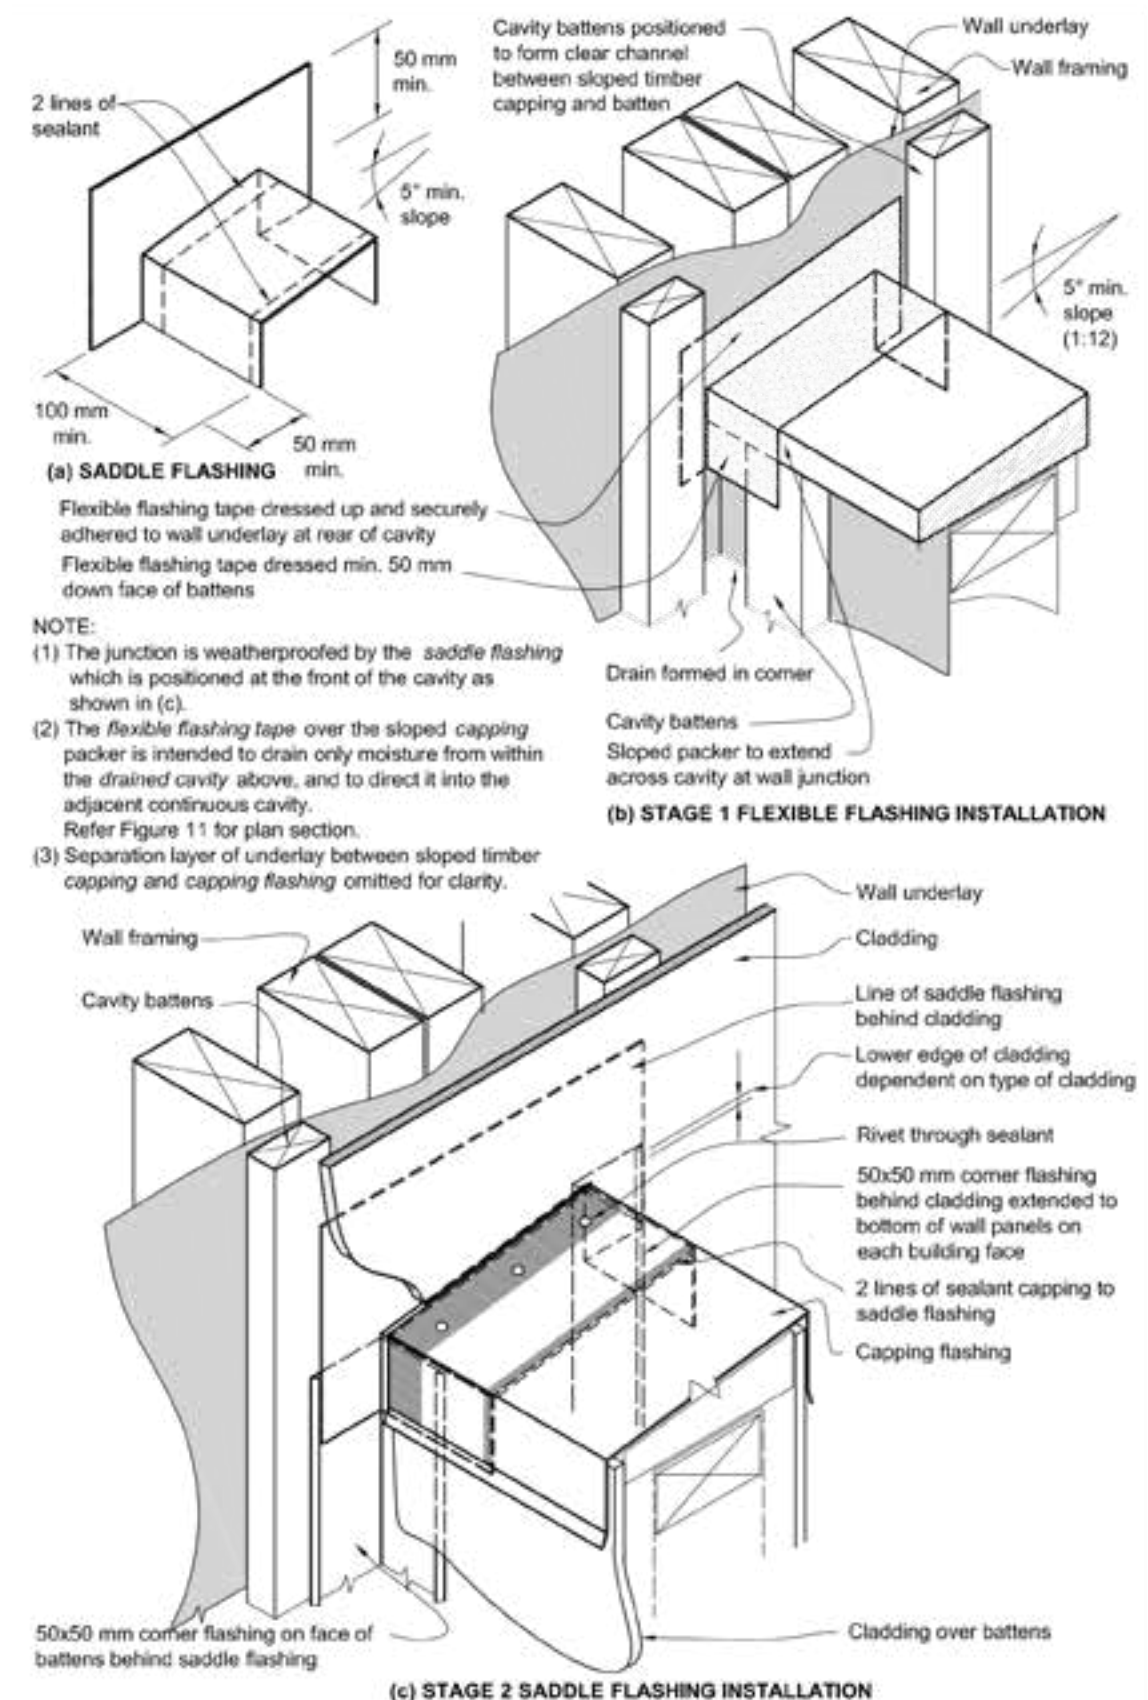

Figure 12: General junction of parapet and enclosed balustrade to wall
Figure 12 of E2/AS1 requires these saddle flashings to be positioned at the front of the cavity (immediately behind the outer cladding) – see NOTE (1) and detail (c) in the drawing. Placing these flashings at the front of the cavity reduces the likelihood of water entering the cavity where the flashing passes through it.